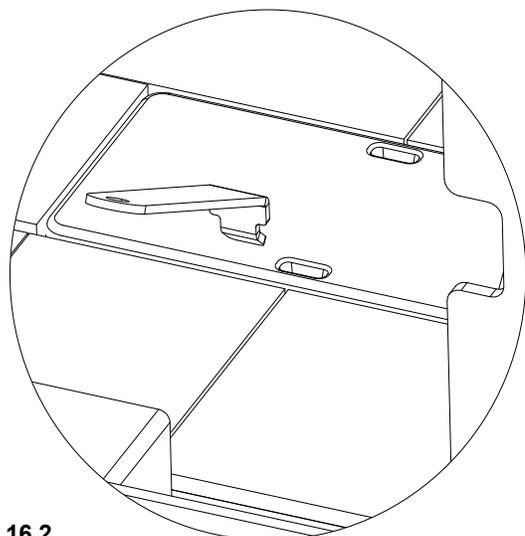

Figure 16.2
- Remove cast iron cap from inside the firebox using tools supplied. Clean ash through the ash removal system channel into the drawer below (**Figure 16.2**). Make sure all ash is removed from the top of ARS door. Lift up the grate and inspect the top of the door to ensure all ash has been removed. You can rapidly move the ARS latch handle up and down to help remove any ash from the door. Use a small brush to clean off the top of the door if any ash remains.